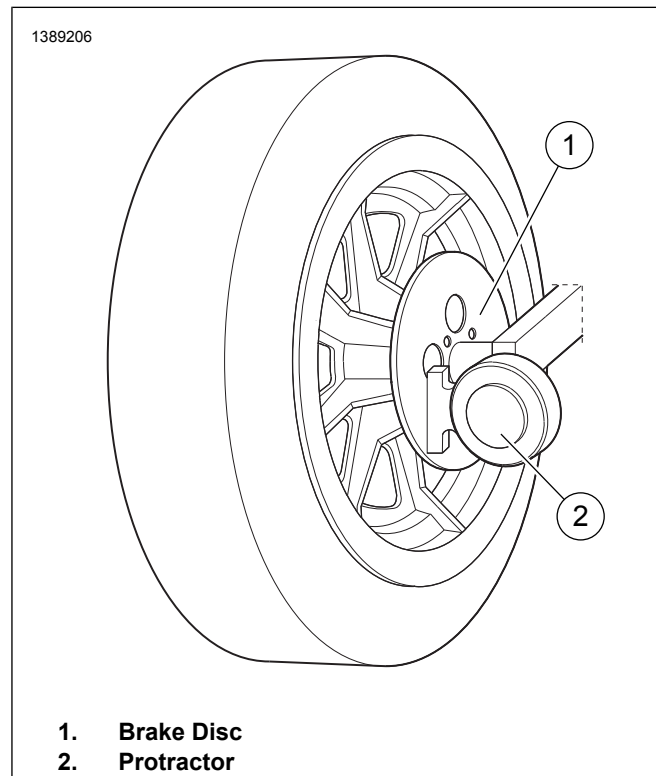

Figure 2-41. Protractor on Rear Disc of motorcycle
3. See Front Brace Connection in Installation (Page 2-18). If sidecar wheel is not perpendicular, raise or lower sidecar chassis at rear connector (4) until sidecar wheel is perpendicular.
4. Lightly tighten the four U-bolt nuts (1) that attach the rear mount boss to the sidecar chassis to 10-15 ft-lbs (14-20 Nm). Tighten the two set screws (2) only until they lightly contact the frame tube.
5. See Figure 2-41. Measure lean-in from a protractor mounted on the rear brake disc of the motorcycle.